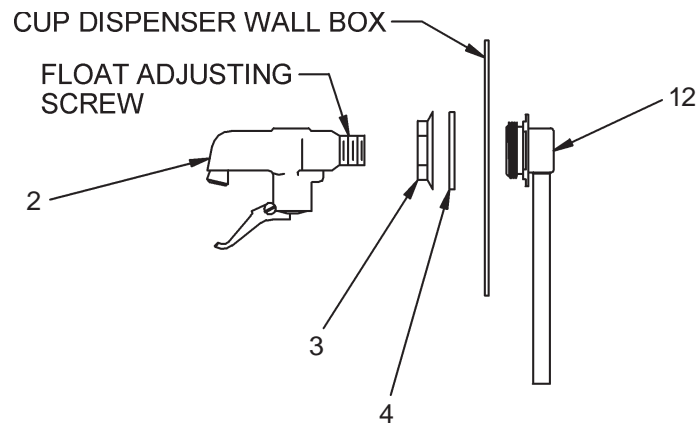

FIG. 14
7. **Install** glass filler supply tube assembly. (See Figure 14). Put glass filler fitting through hole provided in back, put gasket on from the front and screw on the hexagonal mounting nut.
12. **Turn** on supply water and operate push button valve and glass filler. Check entire system for leaks. Water flow from the glass filler can be adjusted by turning the flow adjusting screw (See Figure 14). In order to adjust, it may be necessary to remove, and then reinstall the glass filler, per step 8 above.